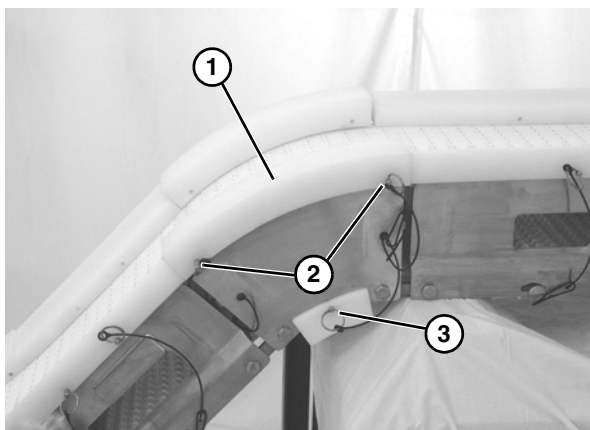

**Figure 8**
1. Slide belt (**Figure 8, item 1**) over knuckles on top of the wear strips.